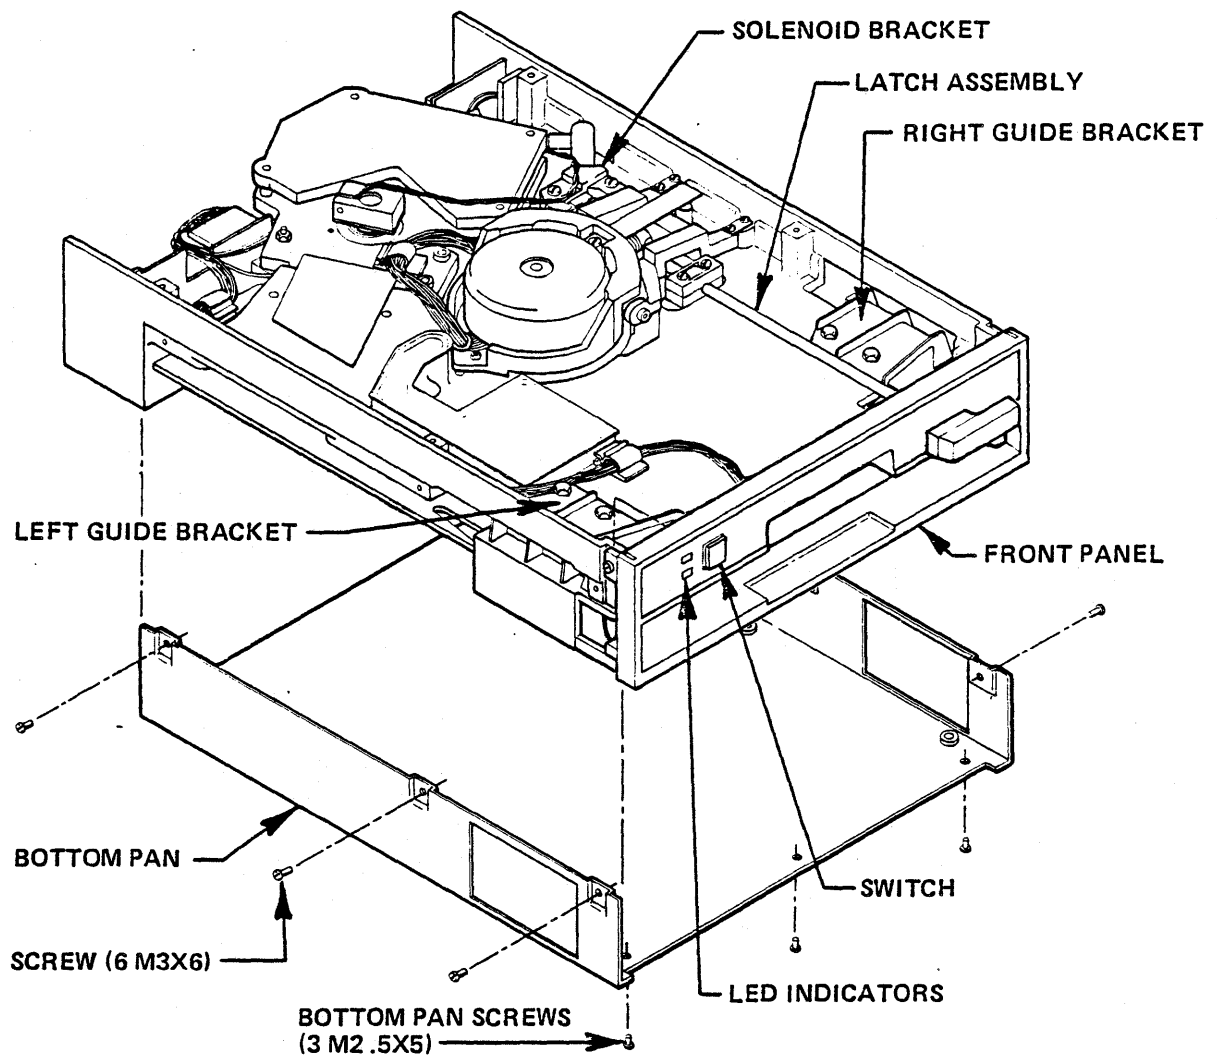
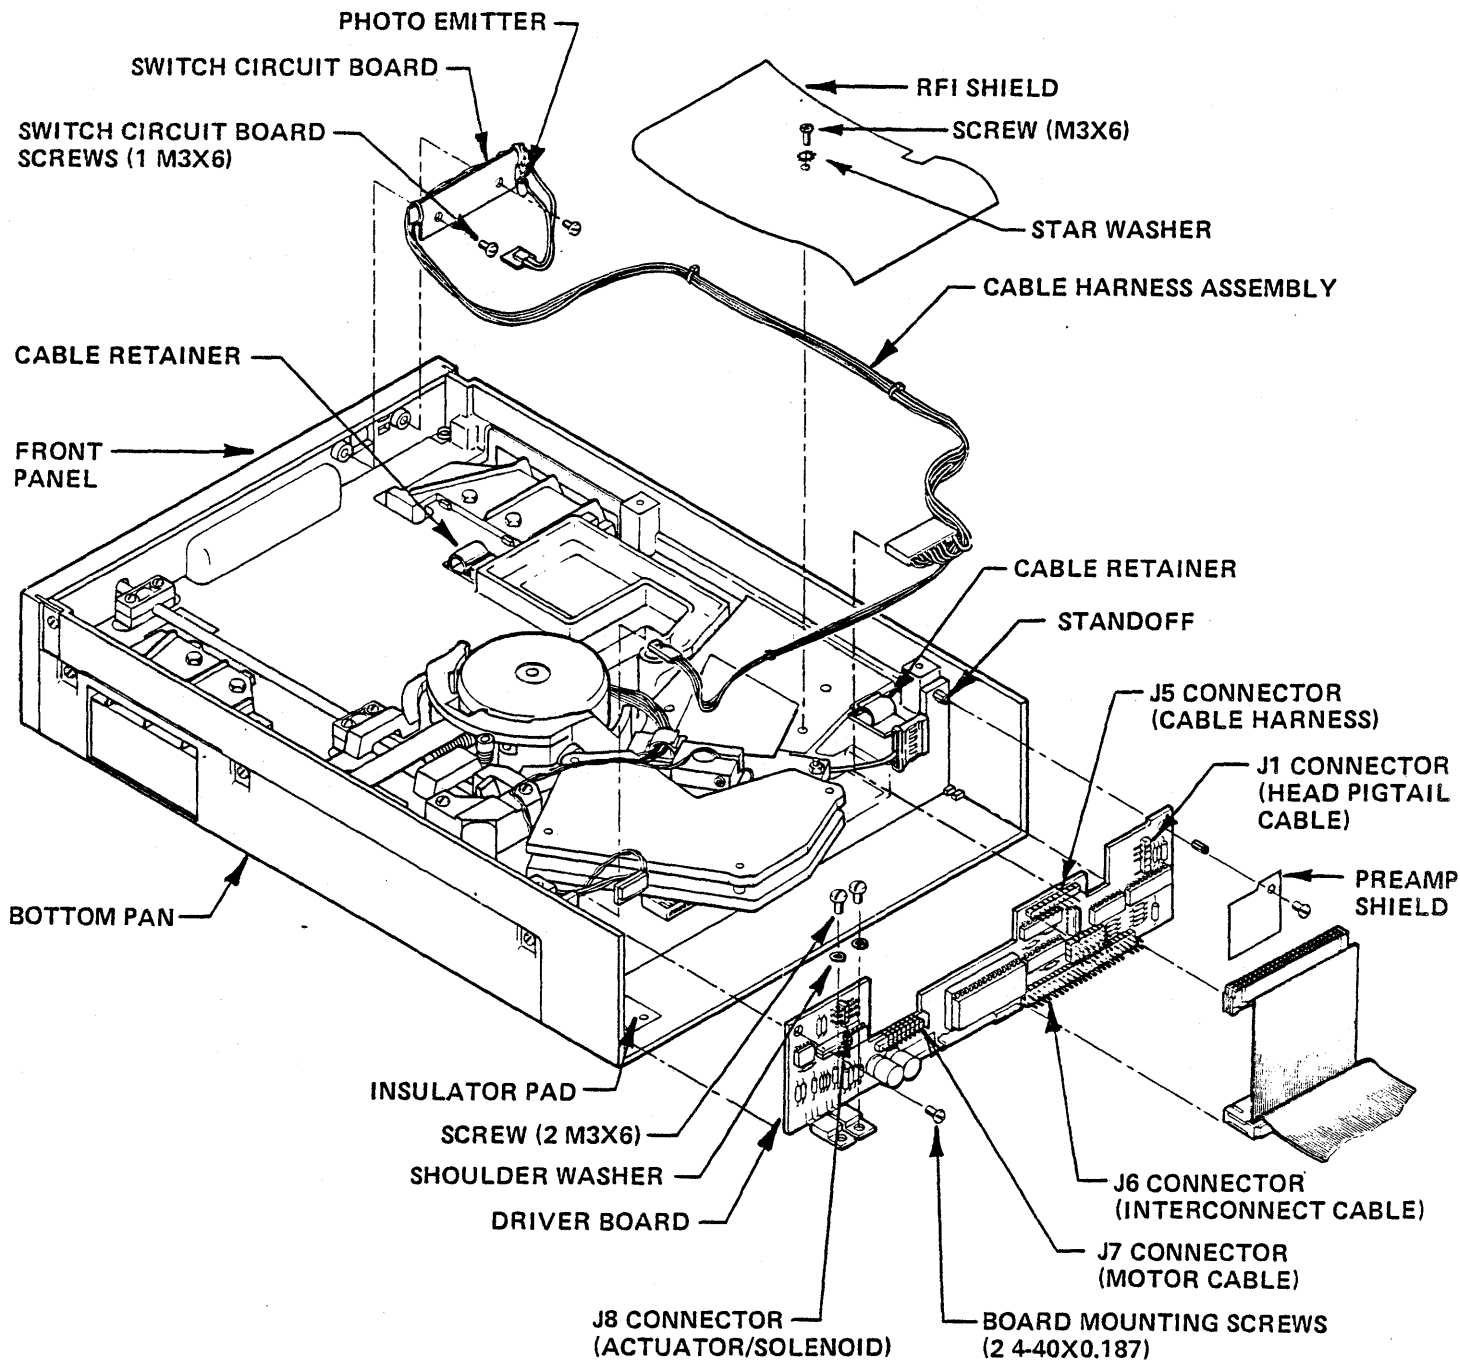
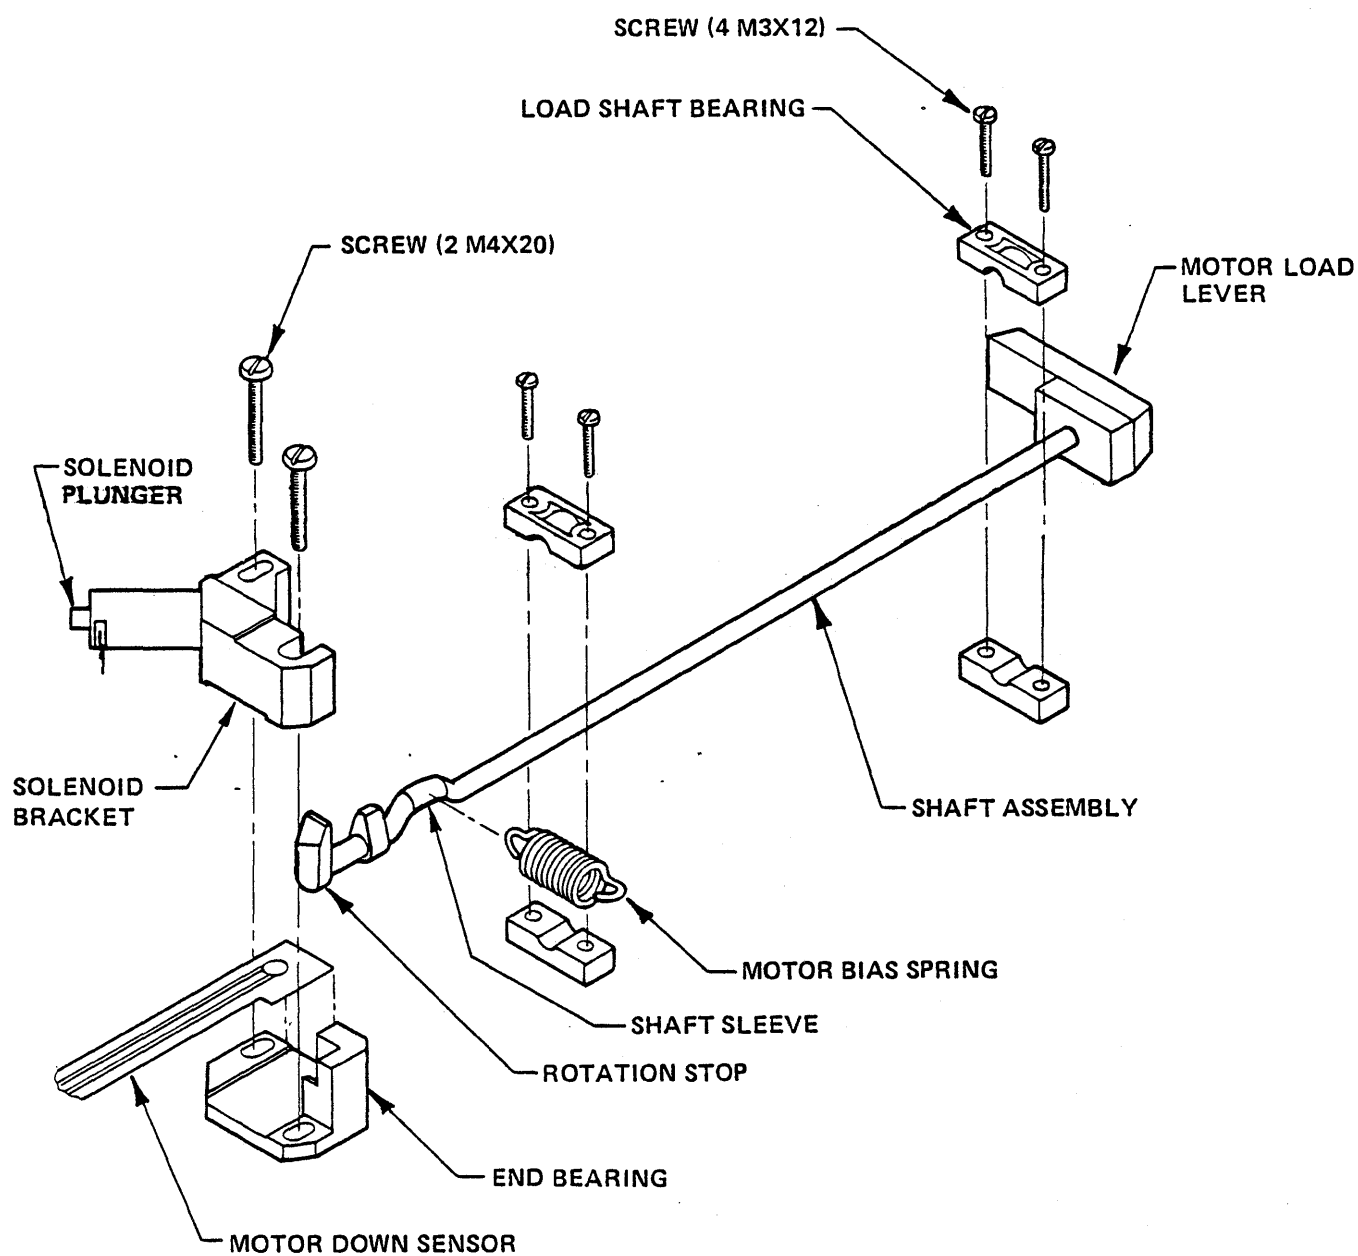

Figure 4-3. Removal of Bottom Pan
Figure 4-4. Removal of Cable Harness
Figure 4-8. Shaft Assembly
Removal of the bottom pan provides access to the Bernoulli plate and the read/write head. The bottom pan (Figure 4-3) must be removed before you replace the front panel.
The cable harness assembly (Figure 4-4) includes the front panel switch and red and green LED indicators (Figure 4-3), mounted to a small switch circuit board attached to the front panel. The cable harness also interconnects the motor-down sensor (Figure 4-8) and cartridge write-protect sensors (Figure 4-4) with the driver board at the rear of the drive through connector J5. To remove the cable harness assembly, proceed as follows:
6. Turn the drive over and carefully remove the photo transistor. The photo transistor is attached to the bottom of the front panel (see Figure 4-3) by a sensor cover with adhesive on one side. The photo transistor should remain attached to the adhesive side of the sensor cover. Note the routing of the two wires that go down the outside edge of the left guide bracket (as viewed from the front).
7. Unlatch the two plastic cable retainers attached to the surface of the main casting (Figure 4-4).
9. Unplug the two-pin connector attached to the motor down sensor (Figure 4-8) coming from the other side of the back end of the drive. These wires run behind the driver board. This connector can be plugged in either way.
4. Using a spring hook, remove the motor bias spring (Figure 4-8) that goes between the motor flange and bearing sleeve on the loading shaft.
The shaft assembly includes the load shaft lever and the load shaft (Figure 4-8). Turning the load lever loads the motor and also prevents cartridge removal while the motor is spinning. To replace the shaft assembly, proceed as follows.
7. Using a spring hook, remove the motor bias spring (Figure 4-8) between the motor flange and the bearing sleeve on the loading shaft.
24. Slide the loading shaft lever toward the rear of the drive until the lever touches the machined surface of the tool (TOL 43400). Hold the loading shaft in this position and at the same time slide the solenoid bracket assembly toward the front of the drive. Position the bracket so that the outline coincides with the outline of the shaft rotation stop (Figure 4-8). Again, check to make sure the motor load lever is against the machined surface of the tool.